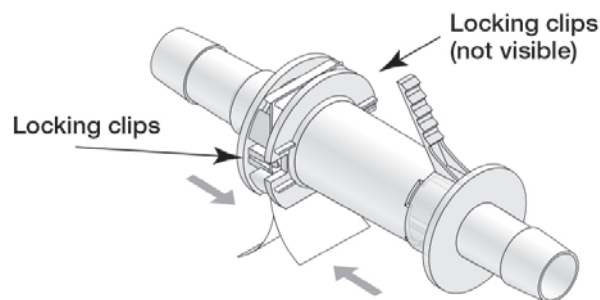

Figure 5.30. Pressing connectors together.
3. After they have been aligned correctly, firmly press the two connectors together until both locking clips snap together tightly (Figure 5.30).